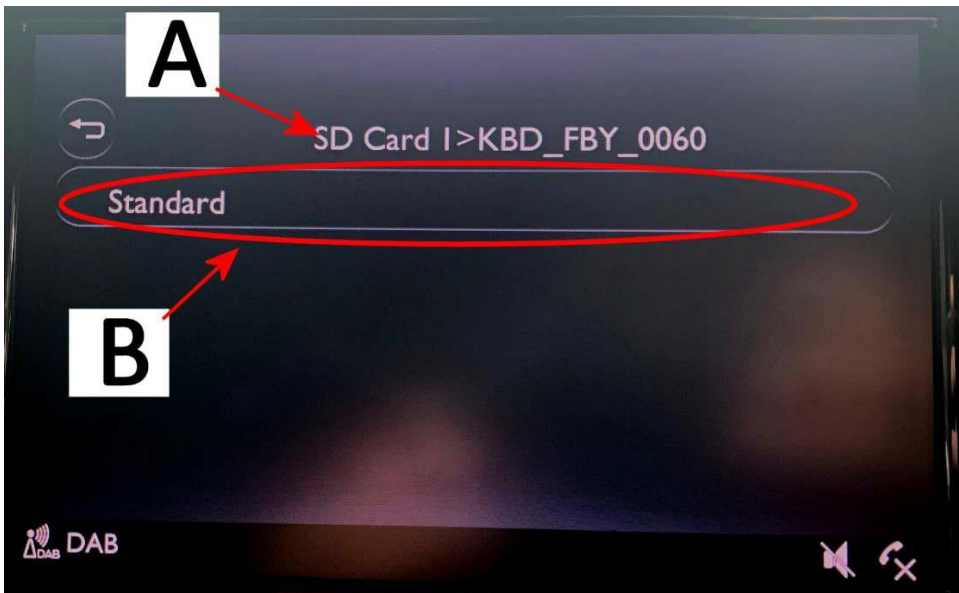

Figure 10
12. Select - SD Card 1 (Figure 9), the next screen will display the reading of the SD card data as shown in Figure 10 (Point A)
13. Referring to Figure 10 (Point B) - Select Standard